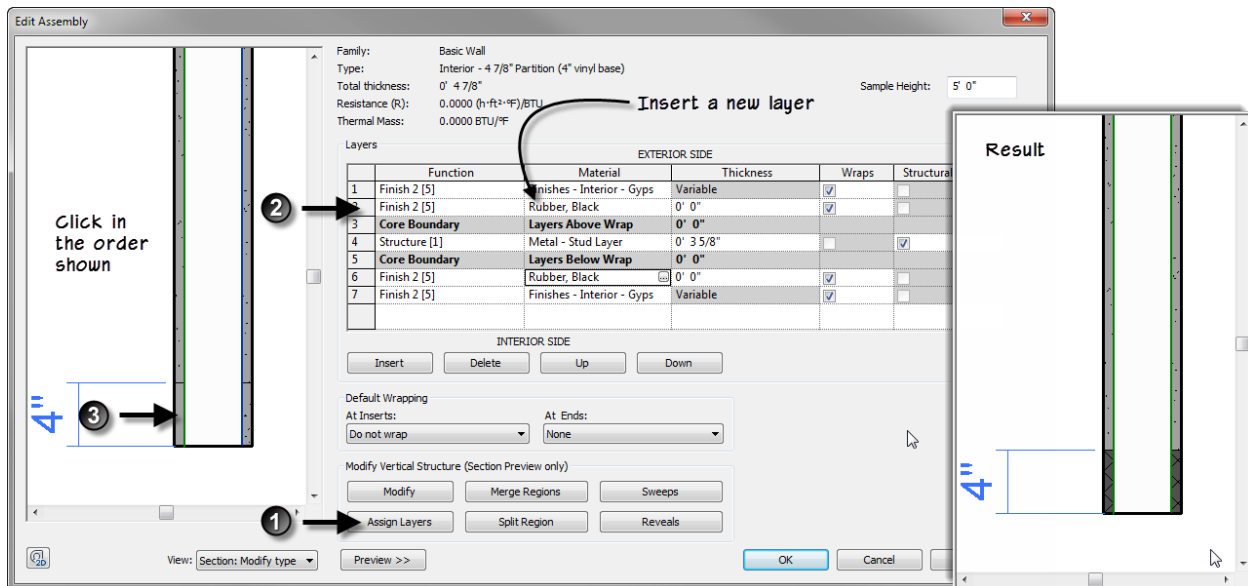

Figure 20
5. Insert a new layer on the same side as the side you split. Use the up and down buttons to position it between inside of the existing finish layer and outside the core boundary. Assign the Function to Finish 2 [5] and the Material to your desired base material such as rubber or vinyl (see Figure 20).
6. Click the Assign Layers button (see item 1 in Figure 20). Click on the new finish layer in the list (see item 2 in Figure 20), and then click on the lower split region in the preview window (see item 3 in Figure 20).